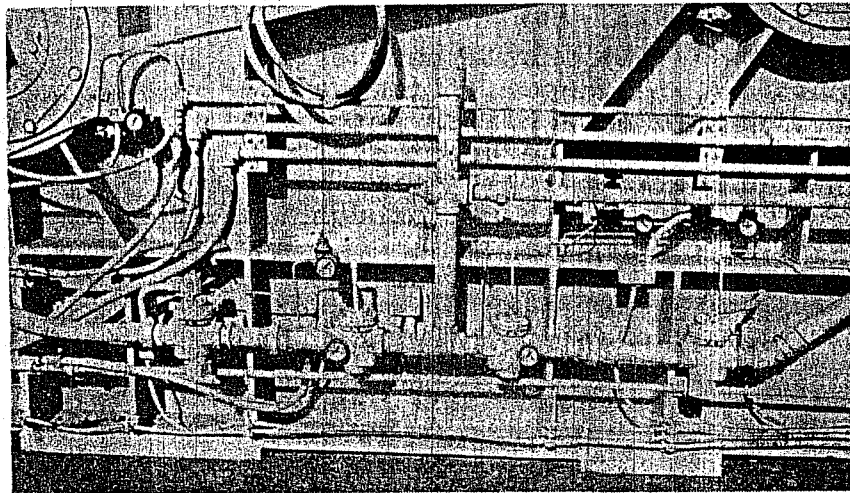

Figure 3.4-14
#### REGULATOR (Figure 3.4-14)
1. Regulators (Figure 3.4-14) which regulate the air to the hoist and drag clutches are set at 105-125 pounds-per-square inch. The pressure is read on the gauges mounted on the regulators. These regulators are adjusted by turning the adjusting screw on the pilot regulators (Figure 3.4-14).
2. The double check valve in the hoist clutch air line is controlled by regulator (Figure 3.4-14). The regulator is set at 7-10 pounds-per-square inch and the pressure is monitored on the gauge mounted between the regulator and check valve.